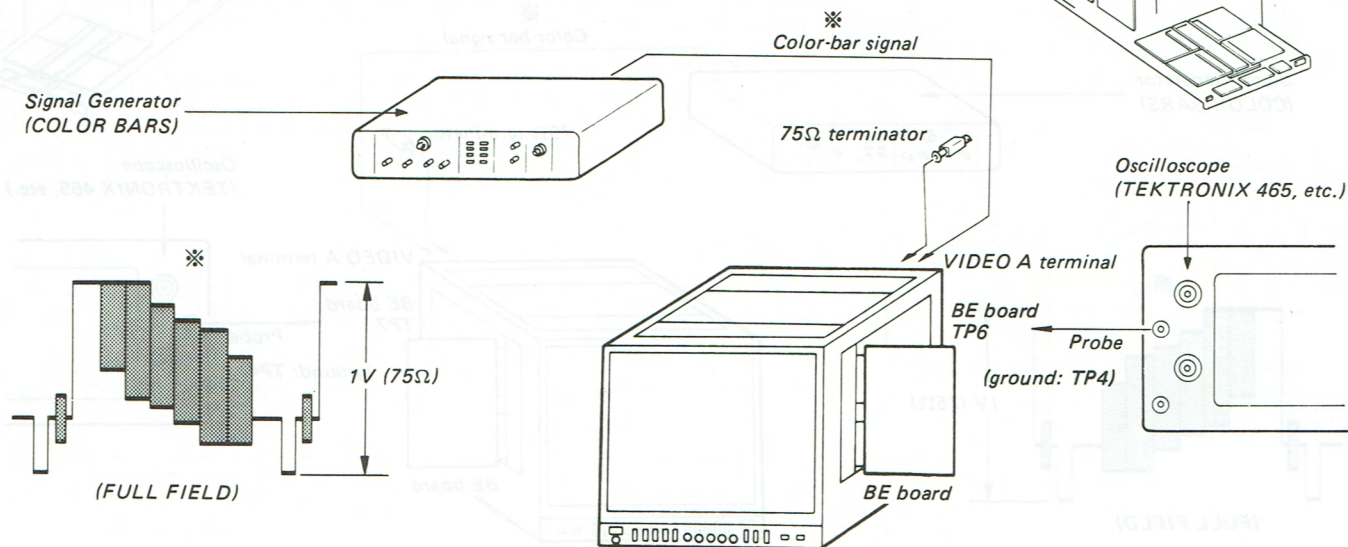

Fig. 20-1.
1. Complete the connections as shown in Fig. 20-1.